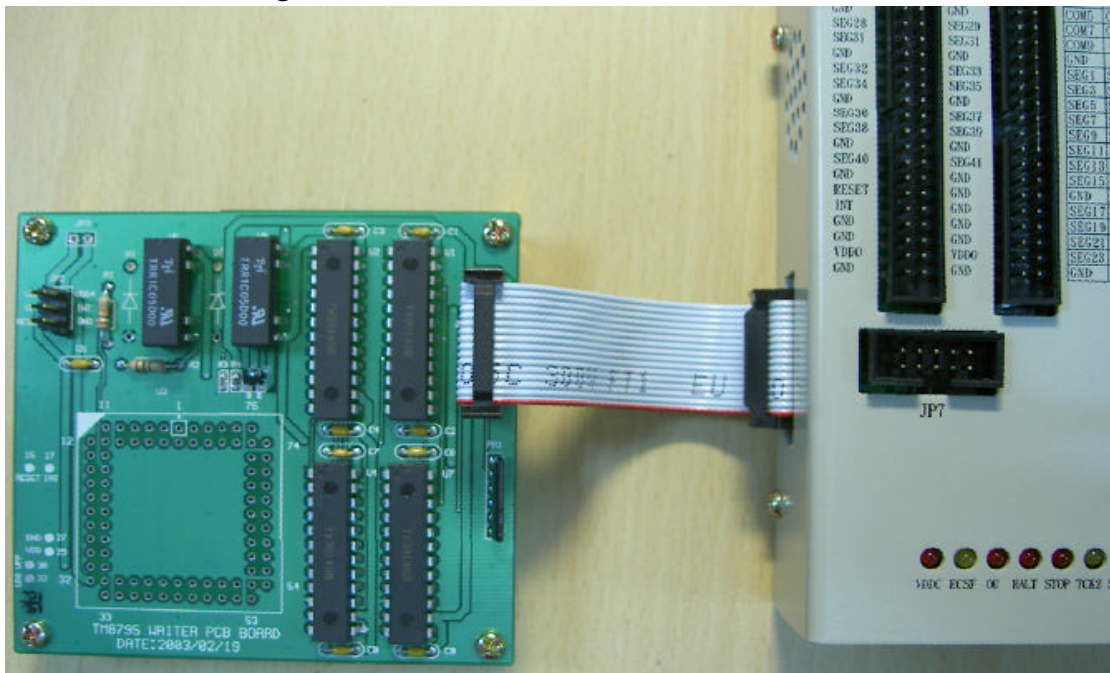

Figure 10
12. JP10: TM8795 Writer Board 外接板專用排線孔,請參考 Figure 10. (註 3)